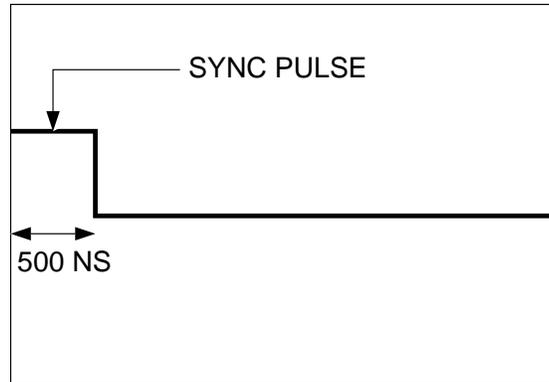

Figure 1. SYNC Pulse Display
12. Display sweep trigger and adjust for SYNC pulse and SYNC pulse display. (See Figure 1.)